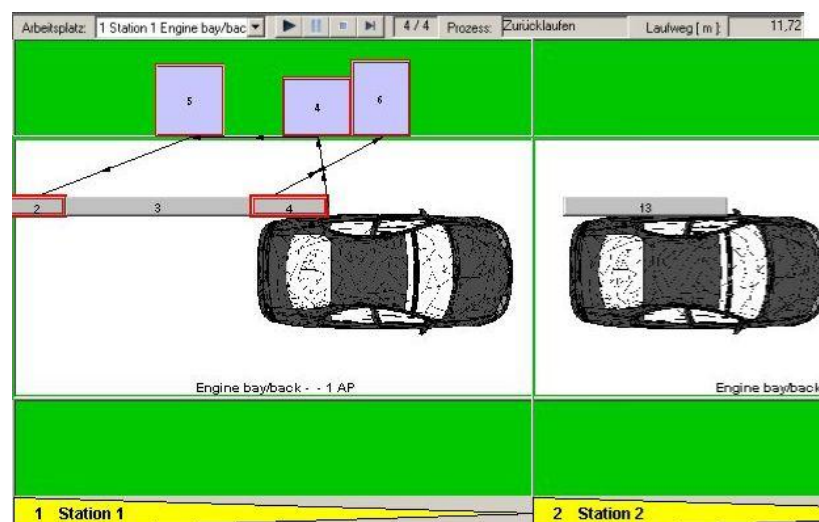

Figure 258: Example for Simulating or Showing Walkways
- An employee fetches the needed parts for each process in work from the parts bin separately. Please refer to the Figure 258.